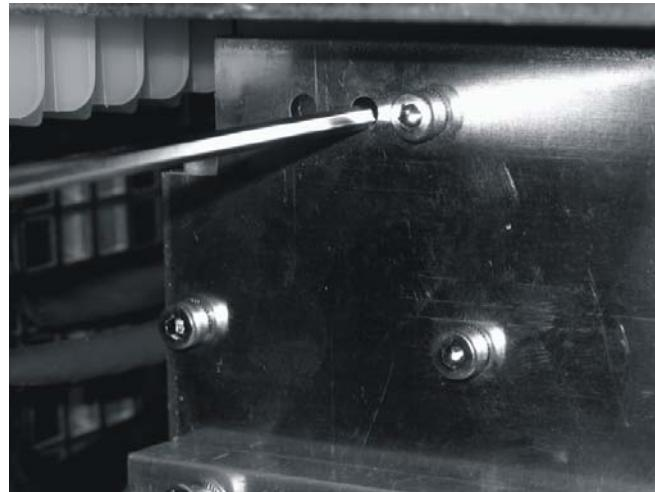

Figure 48: Unscrewing rear thyatron securing screws
8. Use the long 3 mm allen key to unscrew the two rear thyatron securing screws (see Figure 48).
27. Use the long 3 mm allen key to insert and tighten the two rear thyratron securing screws (see Figure 48).